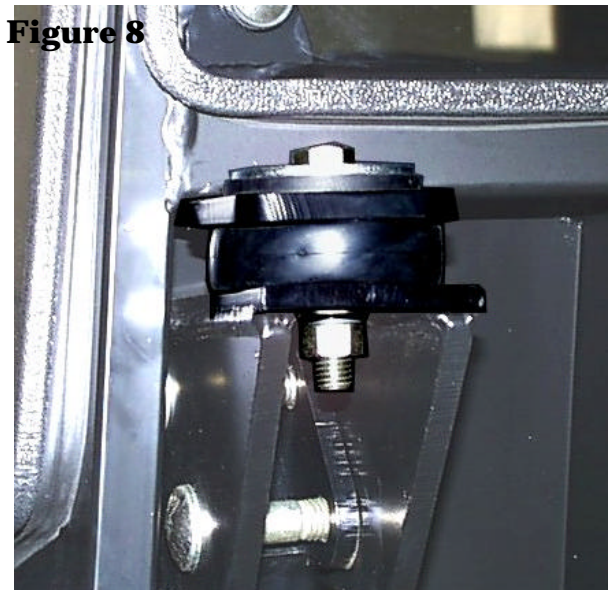

Figure 8
10. Lift the cab over the tractor and slowly lower unit over the mounting pads. Place one rubber isolator over each mount. Lower the cab until the cab mount is on the tractor mounted brackets from the previous steps and use the provided hardware to fasten the cab frame down, 5/8" x 3" hex bolt, 5/8" x 2" steel flat washer, 5/8" x 2 1/2" rubber flat washer, 5/8" lock washer, and 5/8" hex nut. See Figure 8. Use provided torque settings for all mounting hardware.